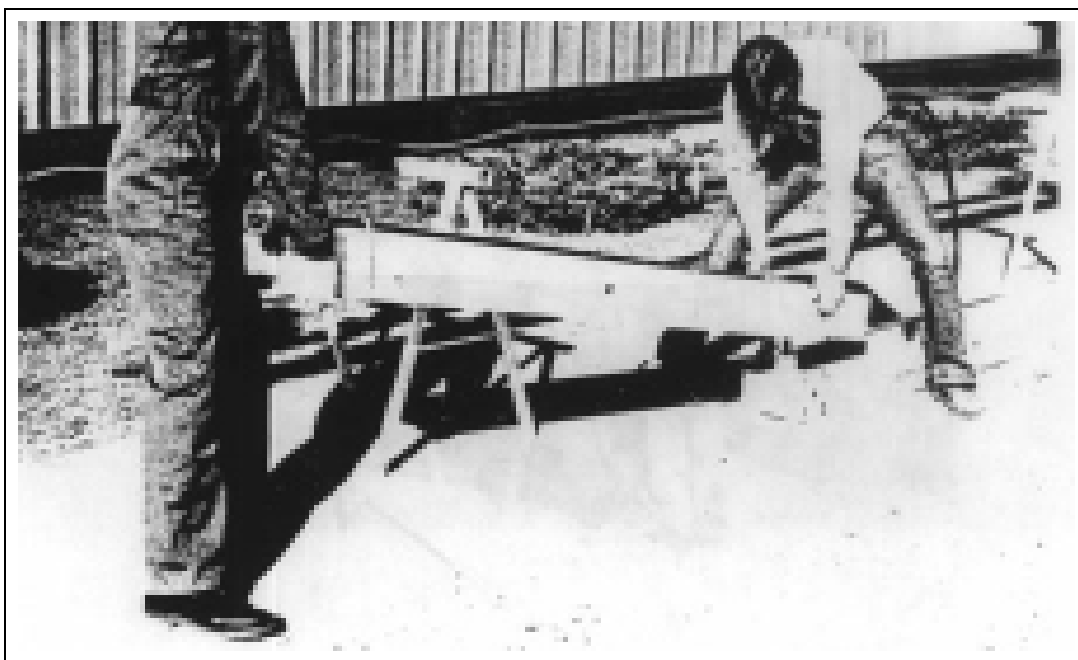

Figure 4H
12. **For 6 Auger Units Only:** The 6 auger trolley comes in two (2) sections; one 4 auger section plus an extension. First remove the bolts holding the center gearbox on the 4 auger section. (See Figure 4H or Page 60.) Then, place 2 auger section over 4 auger section and replace gearbox bolts. At this time, install two (2) additional 5/16" x 3/4" hex head bolts, lock washers and nuts in the lapped section. Be sure bolts are tightened securely. Cut loose extension drive shaft. (See Figure 4H.)